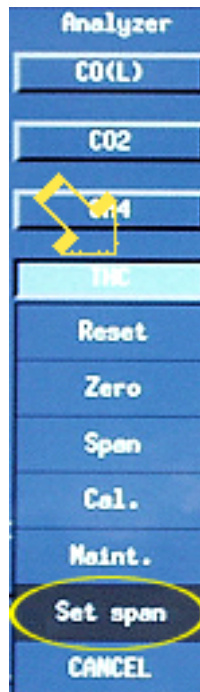

Figure 4
- 107 In the display area, click on the button for the analyzer type scheduled for the gas bottle change. See the arrow in figure 4.
From the menu, click on “Set span.” See the circle in Figure 4.